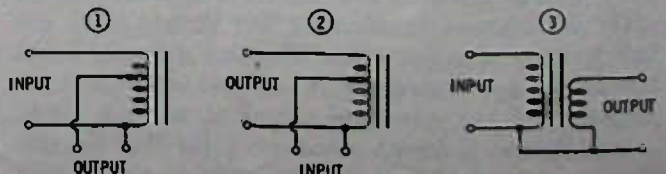

Fig. 3-16. Circuits for Question 22.
22. In Fig. 3-16, which transformer(s) is/are connected as an autotransformer(s)?